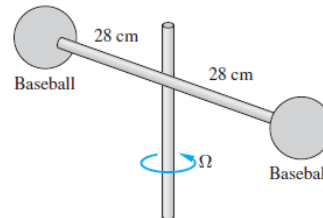

Fig. 7.18
- 7.18 Two baseballs of diameter 7.35 cm are connected to a rod 7 mm in diameter and 56 cm long, as in Fig. 7.18. What power, in W, is required to keep the system spinning at 400 r/min? Include the drag of the rod, and assume sea-level standard air.